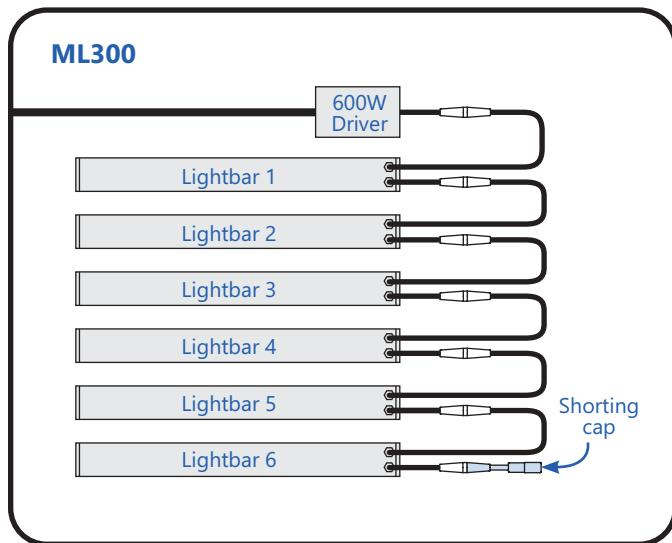

Figure 1
### For ML300 (see Fig. 1)
- ① Turn OFF power to driver.
- ② Remove the shorting cap from the last lightbar in the line (e.g. #6 Lightbar in Figure 1).
- ③ Connect shorting cap to Lightbar#5. Turn driver power ON.
- ④ If all lightbars turn on, then Lightbar#6 is faulty.
- ⑤ If all lightbars are still off, turn power OFF to driver. Move shorting cap to Lightbar#4. Turn Power ON.
- ⑥ If all lightbars turn on, then faulty lightbar if either #5 or #6. Turn power OFF to driver.
- ⑦ Connect Output of Lightbar#4 to input of Lightbar#6. Turn power ON.
- ⑧ If all lightbars turn on, then the faulty lightbar is #5.